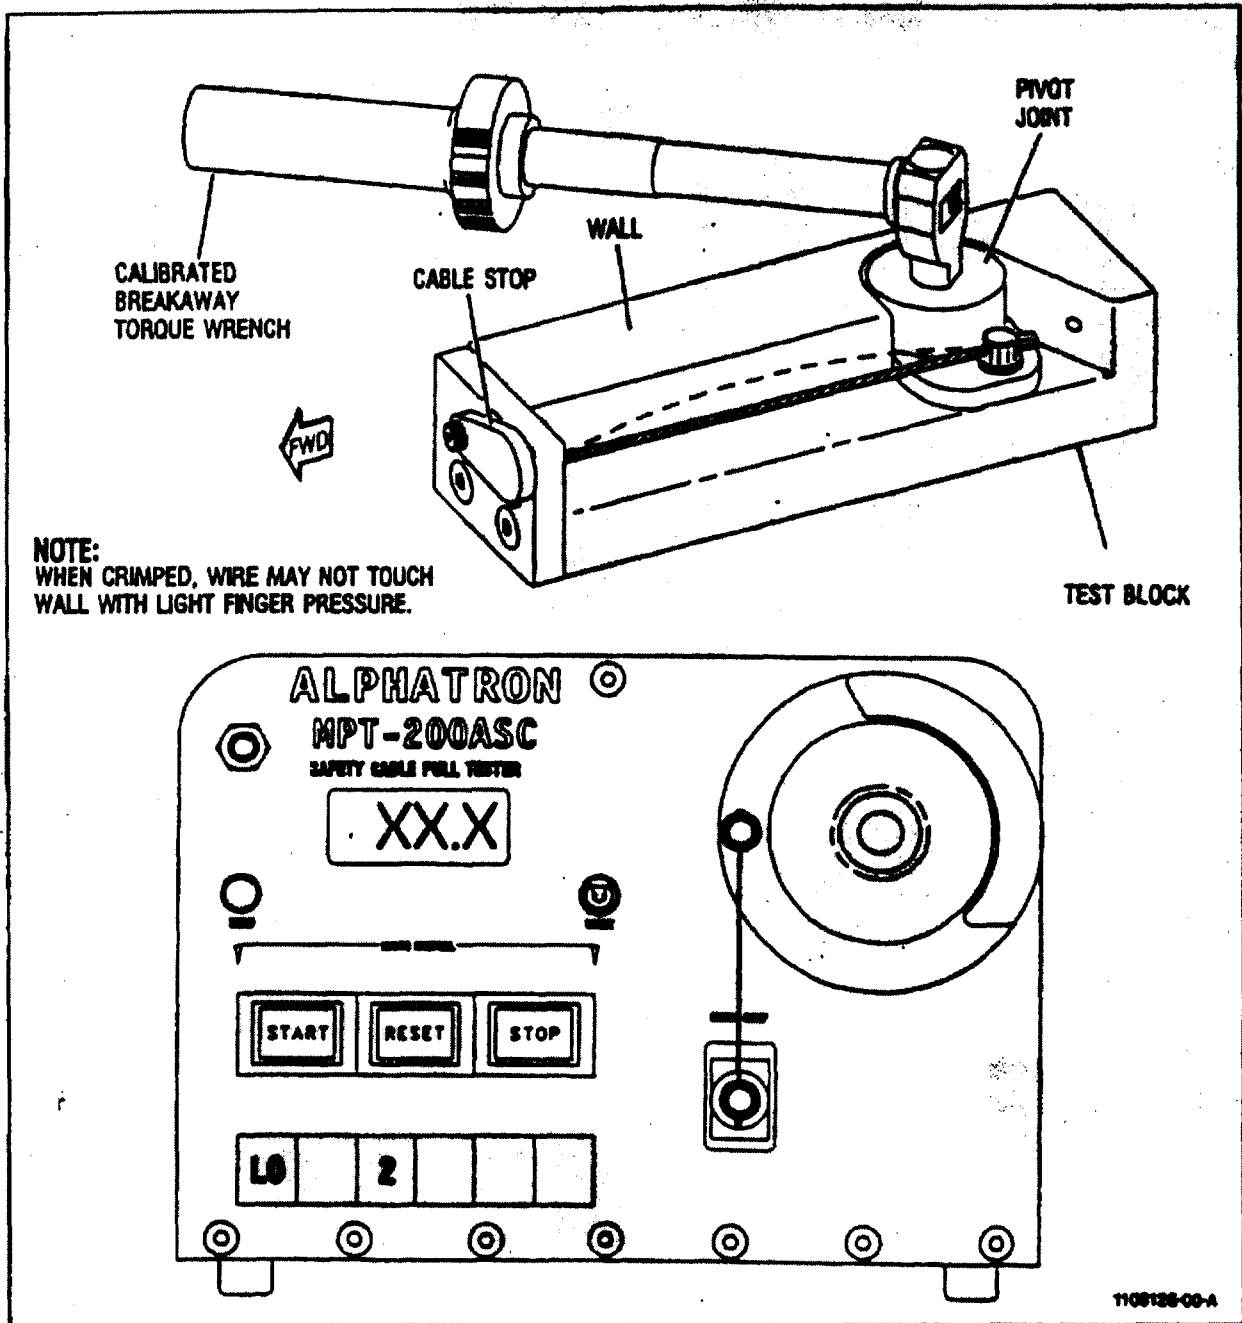

Figure 075-5-12. Crimping Tool Verification Equipment
10. Find the center of the safety cable in the test block. Use light finger pressure and push the center of the safety cable toward the wall on the test block. If the safety cable does not touch the wall the crimping tool can be released for service. See Figure 075-5-12.
fail. It is recommended that this test be done a minimum of once a month. Use a safety cable tester to do this test. See Figure 075-5-12. Do the test according to the manufacturer's instructions. This test can also be used as an alternative to the test block test.